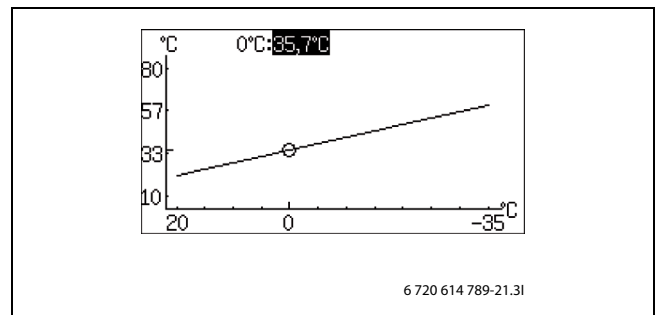

Fig. 51
- Turn the menu dial when the square is highlighted until 0 °C is highlighted (→ Figure 51).